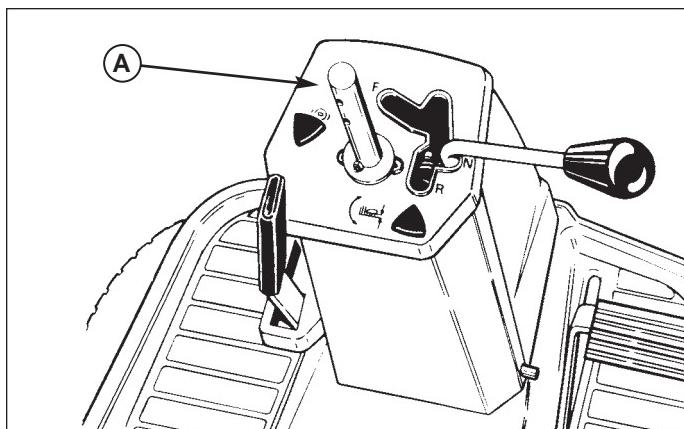
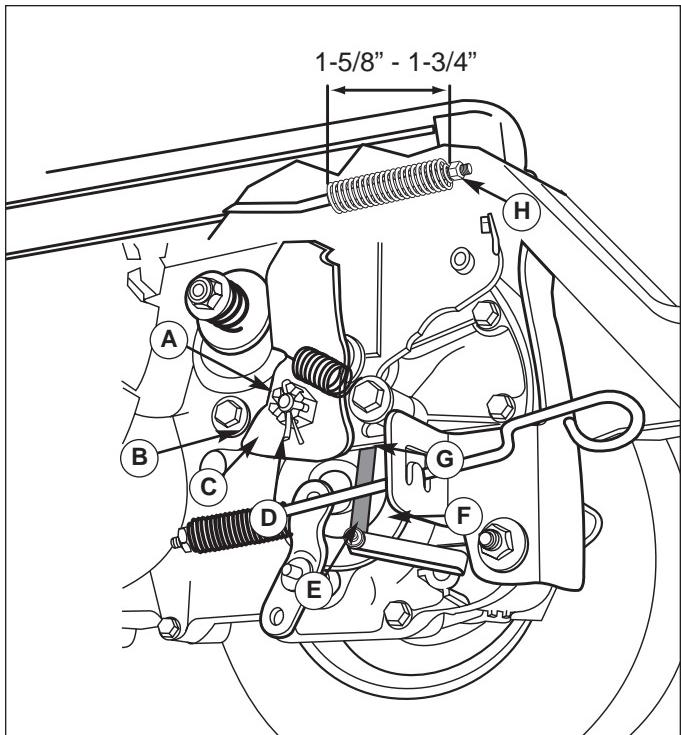

Figure 24. Steering Wheel Height Adjustment
Figure 25. Brake Adjustment
1. Pull down on the rubber boot to expose the two holes in the steering shaft (A, Figure 24).
2. Brake arm (C, Figure 25) should be touching stop (B).
3. Remove cotter pin (D) and loosen the castle nut (A). Place a 0.015" feeler gauge (E) gap between the brake disc (F) and the brake puck (G).
- a. To decrease gap, insert feeler gauge in gap and turn nut (A) clockwise until resistance is felt on the feeler gauge. To increase gap, turn nut (A) counter-clockwise and recheck gap.
3. Set the parking brake. Loosen or tighten adjustment nut (H) to achieve a 1-5/8" -1-3/4" compressed spring length as shown in Figure 24.